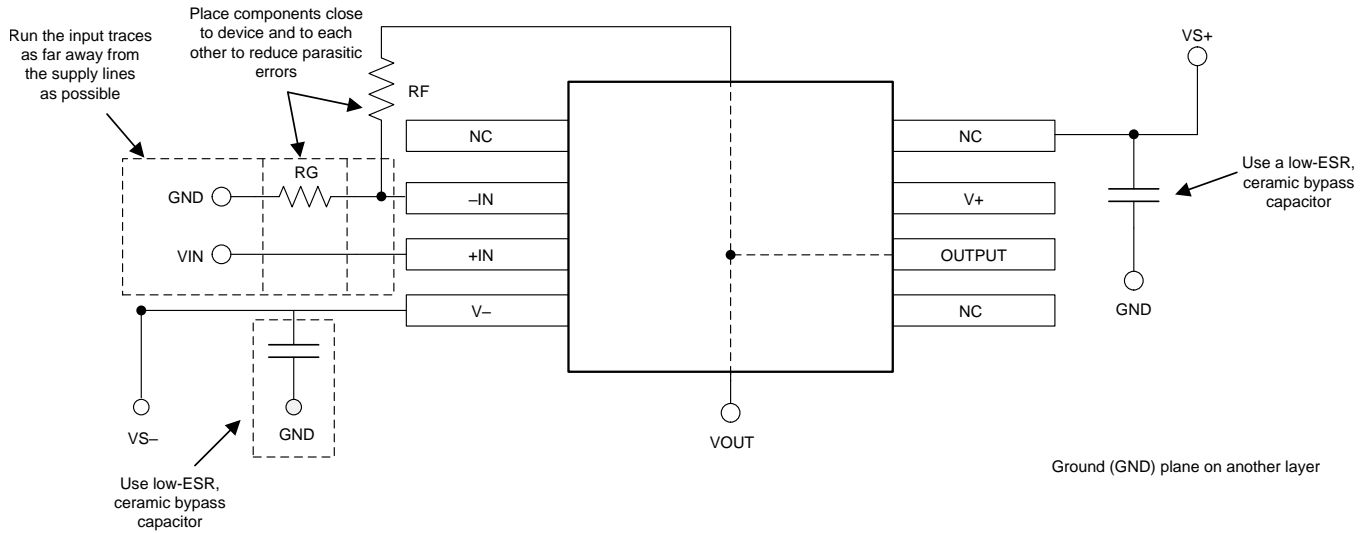

图 54. Operational Amplifier Board Layout for Noninverting Configuration
- Place the external components as close to the device as possible. As illustrated in Figure 54, keeping RF and RG close to the inverting input minimizes parasitic capacitance.